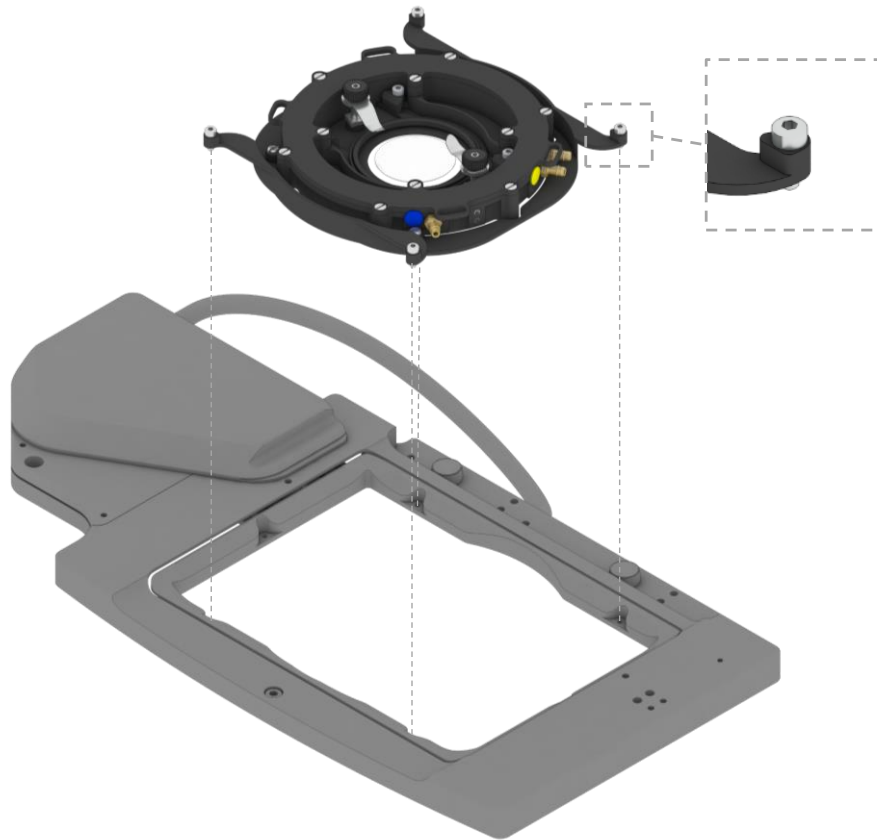

Figure 11. How to assemble the chamber to the stage.
1. To place the H101-LG on the stage, fix the Chamber Base to the stage with the four captive screws by using a 1.5mm hexagonal key on the Chamber base (see Figure 11).